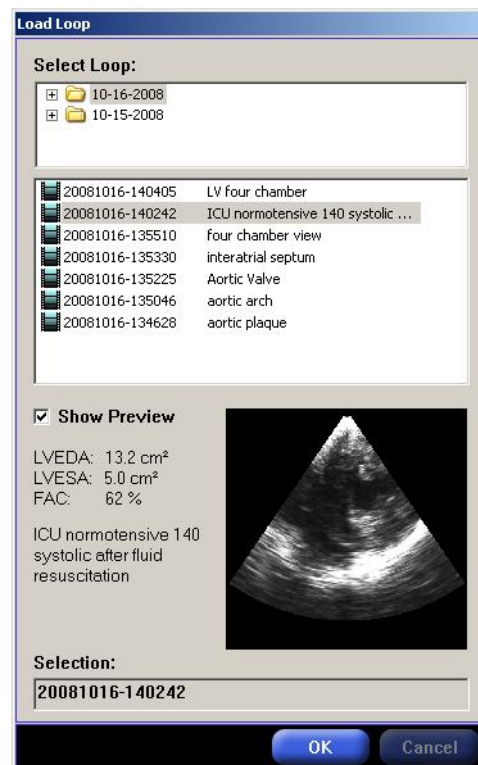

Fig. 49 Load cineloop window
- 5 Click once on the desired cineloop. If the Show Preview option is checked, the cineloop is displayed in the lower right of the Load Loop dialog window, along with comments and LVEDA, LVESA and FAC data, if any. See Figure 49.